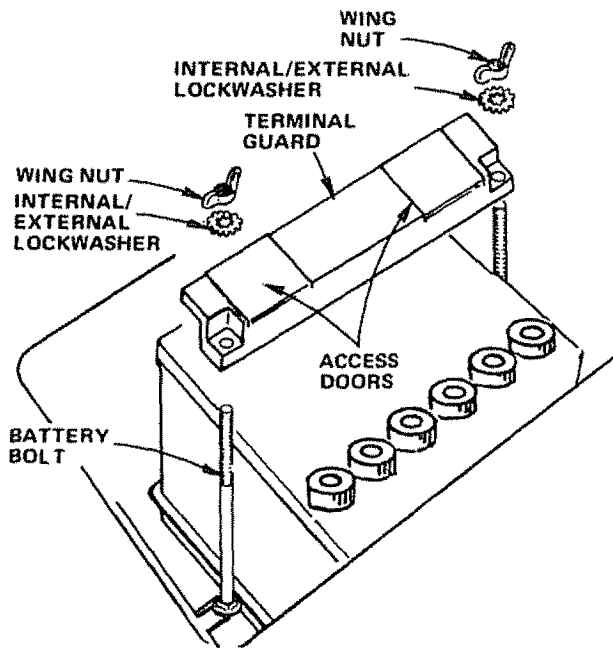

FIGURE 6A
- a. Using the slot on one side of the Battery Support (Fig. 6A) slide Battery Bolt into Frame Slot (head of Bolt down). Fasten the Battery Bolt to the Terminal Guard using Int./Ext. Lockwasher and Wing Nut as shown in Fig. 6A.
- b. Assemble the remaining Battery Bolt to other side of Battery Support and fasten Terminal Guard to it with remaining Int./Ext. Lockwasher and Wing Nut. Tighten Wing Nuts securely by hand (Fig. 6A).
NOTE: USE TERMINAL ACCESS DOORS (FIG. 6A) FOR: